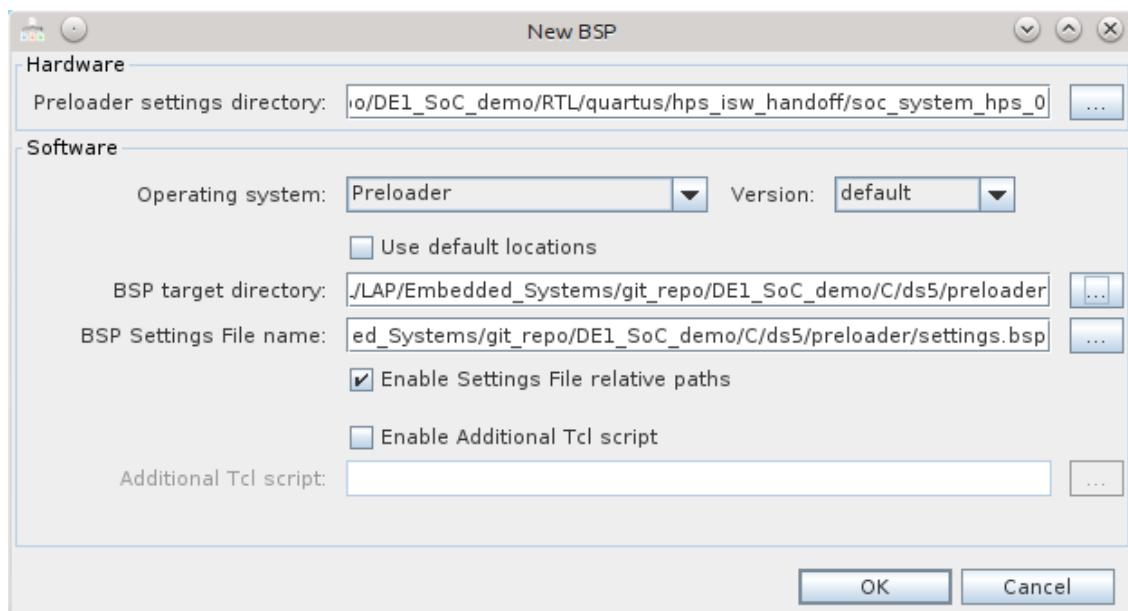

Figure 8-23. New BSP Dialog
- Disable the “Use default locations” checkbox and under the “BSP target directory”, select the “DE1_SoC_demo/C/ds5/preloader” directory. You should have something similar to Figure 8-23.